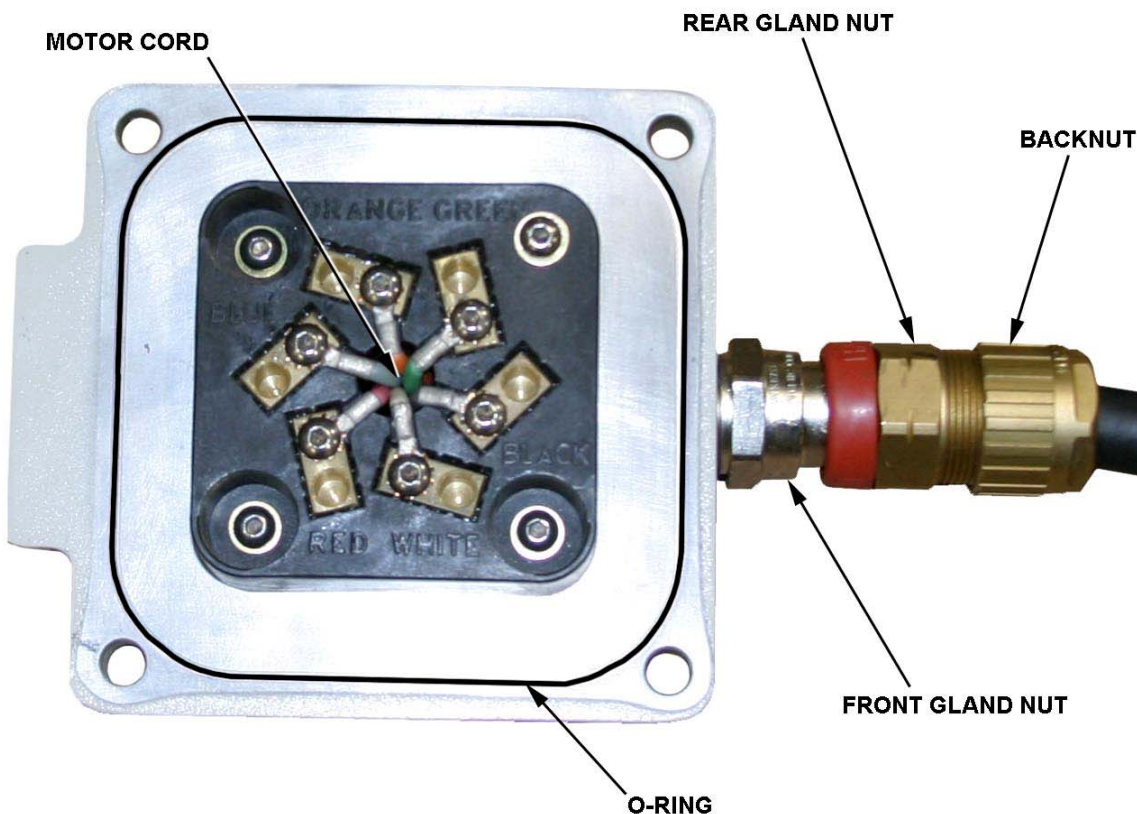

Figure 7-4 Motor Cord Connections to Power Connector
1. Remove cover from motor junction box, and discard O-ring (Figure 7-4).